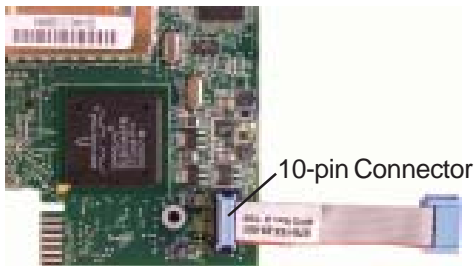

Fig. 2-1, Attaching the 10-pin Connector
4. Attach the new transponder ribbon cable supplied to the 10-pin connector on the transponder as shown in Fig. 2-1. The connectors are keyed to prevent incorrect orientation.